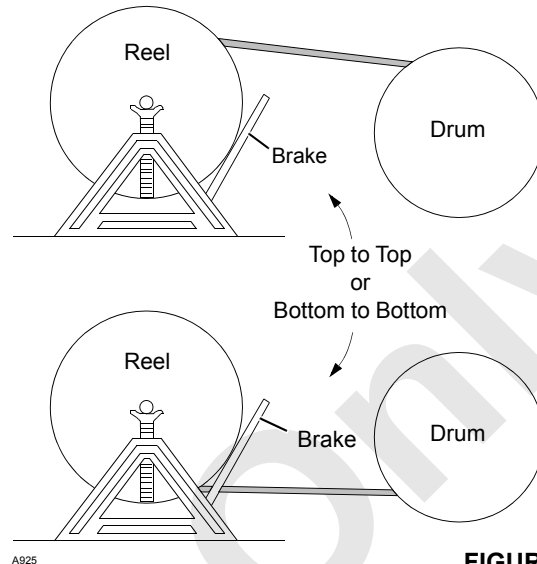

FIGURE 4-61
2. Provide a brake at the shipping reel so the wire rope can be wound tightly onto the drum (Figure 4-61).
3. Wind from the top of the reel to the top of the drum or from the bottom of the reel to the bottom of the drum (Figure 4-61).